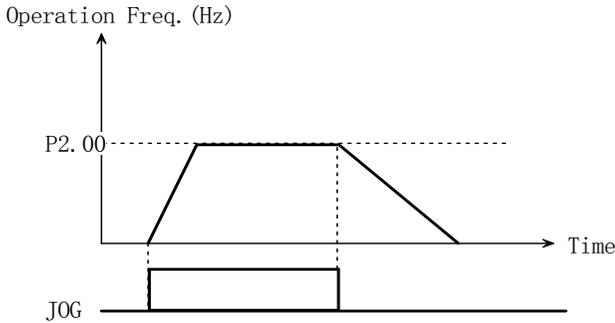

Figure. 5-3-2 JOG operation
- ◆ If setting is 8 or 9, this terminal is defined as FJOG or RJOG. When the inverter is not running to RUN command (No frequency output), this terminal can do forward jogging or reversed jogging actions accordingly as shown in Figure.5-3-2. The defined Jog function of terminal isn't limited by *Control Command Set Channel* (P0.07). Jog frequency and jog Acc/Dec time can be defined in P2.00~P2.02.